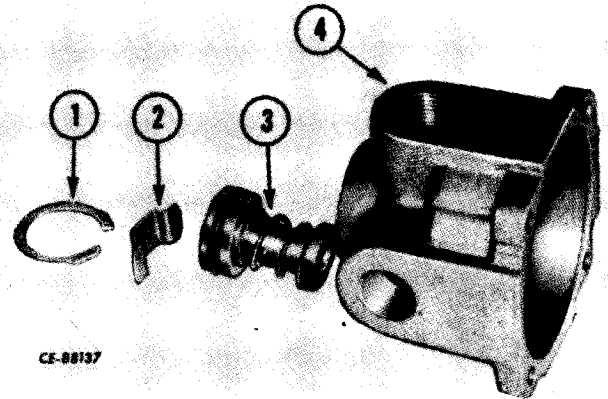

Figure 13-41
Insert inlet and exhaust valve assembly (3, Fig. 13-41) and exhaust shield (2) into lower body (4) and secure with retaining ring (1).